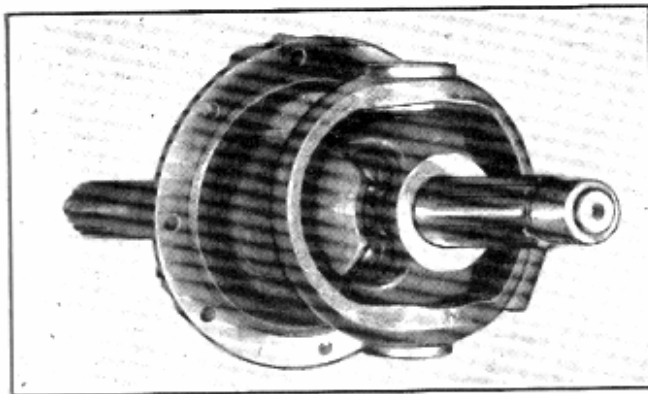

Fig. 12—Steering Knuckle Removed
4. Remove the capscrews from the steering knuckle retainer flange, allowing the steering knuckle to be removed, Fig. 12.